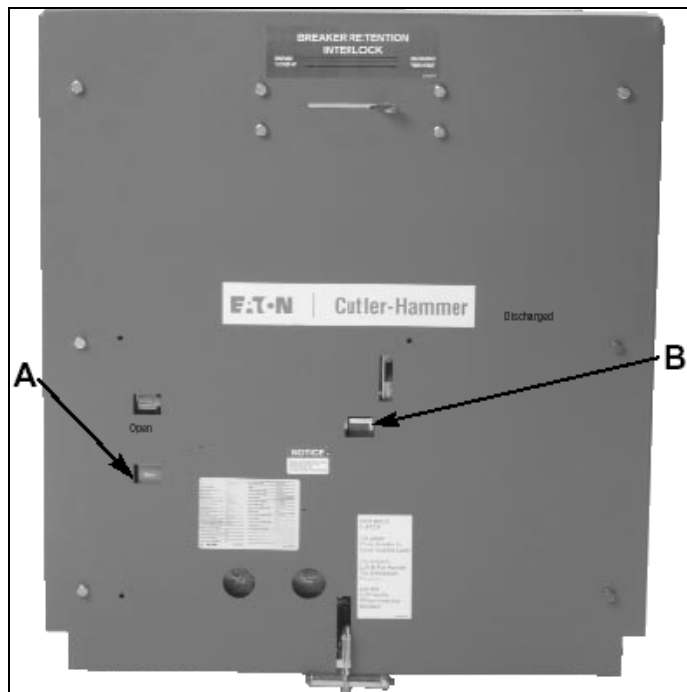

Figure 6-5 Status Indicators (“A” shows the contact status indication and “B” shows the spring indication.)
Step 1 - On the front cover identify the status indicators. MAKE SURE THE CLOSING SPRING STATUS INDICATES “Discharged” AND THE MAIN CONTACT INDICATOR SHOWS “Open” (Figure 6-5).